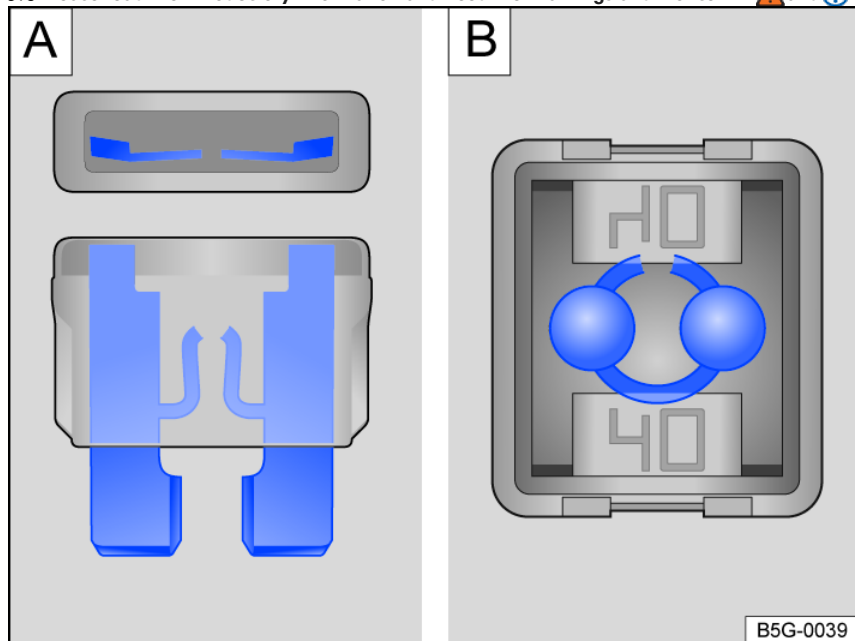

Fig. 140 Blown fuse (general example).
- A blown *flat connector fuse* (ATO®, MINI®) has metal strips that have burned through, which you can see through the transparent housing from above and from the side fig. 140 **A**.
- A blown *block fuse* (JCASE®) has metal strips that have burned through, which you can see through the transparent housing from above fig. 140 **B**.